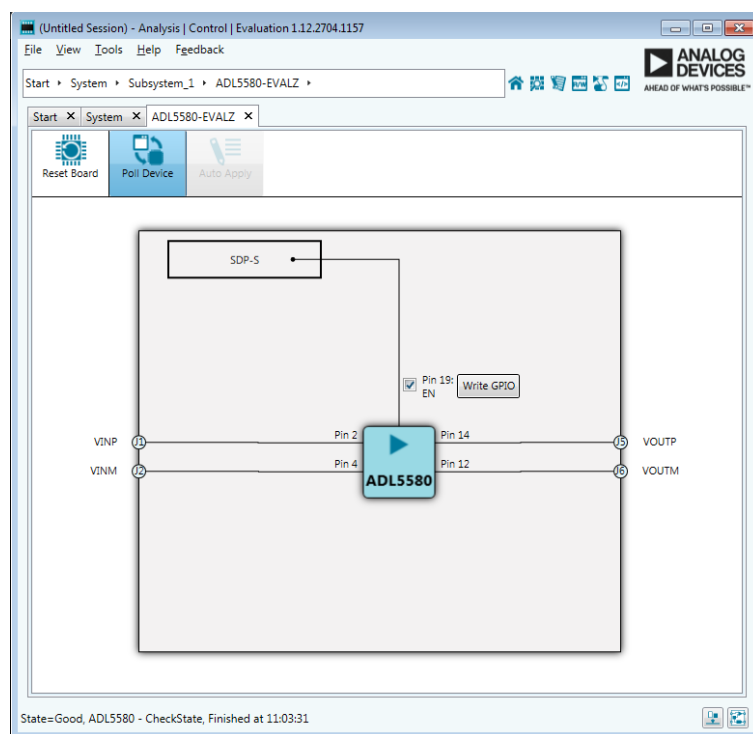

Figure 7. ADL5580-EVALZ Board Level View
- Click the **ADL5580-EVALZ** icon to open the evaluation board level view shown in Figure 7. Because the ADL5580-EVALZ is a simple evaluation board, only the **ADL5580** represents as a controllable component.
- Configure the **ADL5580** in the **ChipView** (see Figure 7) as follows: